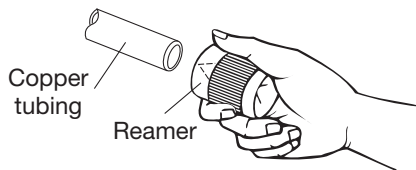
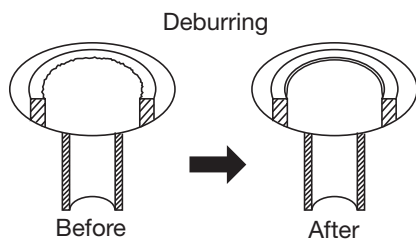

Figure 9
Figure 10
2. Hold each pipe downward when cutting and remove burrs at the end of the copper tube with a tube reamer or file. This process is important and should be done carefully to make a good flare (Figure 9 and Figure 10).